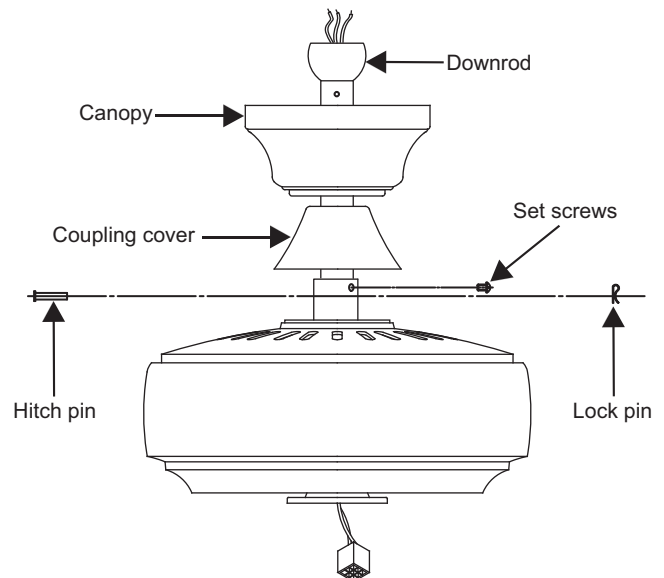

Figure 6
Step 4. Route wires exiting from the top of the fan motor through the canopy, coupling cover and then through the ball/downrod. (Fig. 6)
Step 5. Align the holes at the bottom of the downrod with the holes in the collar on top of the motor housing (Fig.6). Carefully insert the hitch pin through the holes in the collar and downrod. Be careful not to jam the pin against the wiring inside the downrod. Insert the locking pin through the hole near the end of the hitch pin until it snaps into its locked position, as noted in the circle inset of Fig. 6.
Step 6. Tighten two set screws on top of the fan motor firmly. (Fig. 6)